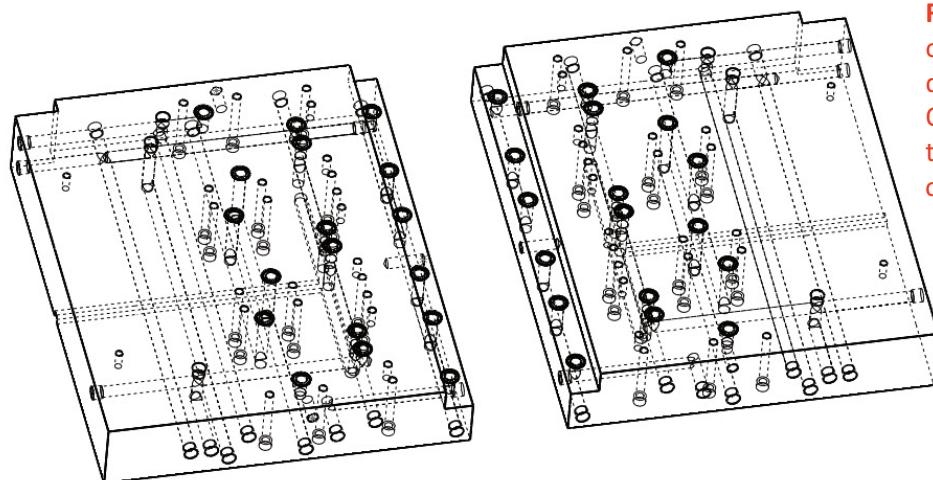

Figure 5-3 Mirror images of parts made from one drawing are often needed. One tip I can give you is that mirror images always open like a book.
6. Avoid cramming too much information into one drawing. (see Fig. 5-3)